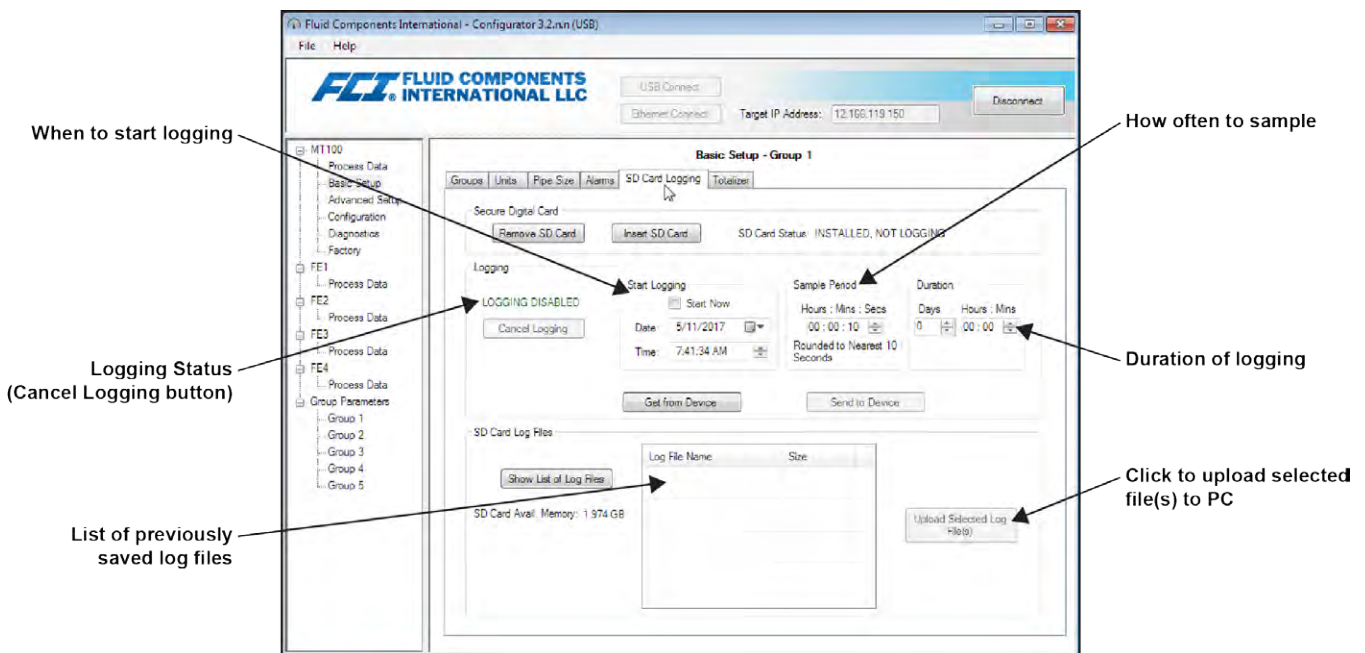

Figure 32 – SD Card Data Logging Example Screen (MT100 Configuration Software)
After installing the microSD card in the system use the MT100 Configuration Software application to configure and start/stop data logging. An example **SD Card Logging** tab screen is shown in **Figure 32** below. Configure the *Logging* section of this screen to set up data logging.
- Upload selected log file(s) to a PC using a USB cable and the MT100 configuration software: Start the MT100 configuration software. Click **USB Connect** on the home screen. Select the *Basic Setup* branch from the menu tree on the window's left side. Select the **SD Card Logging** tab. Refer to Figure 32 on page 35. In the *SD Card Log Files* frame click **Show List of Log Files**. Select the desired file(s) from the list displayed. Click **Upload Selected Log File(s)**. A Windows Explorer file dialog pops up showing the host computer file locations. Select the desired location to store the file and click **OK**. The file is then copied to the specified host computer location.